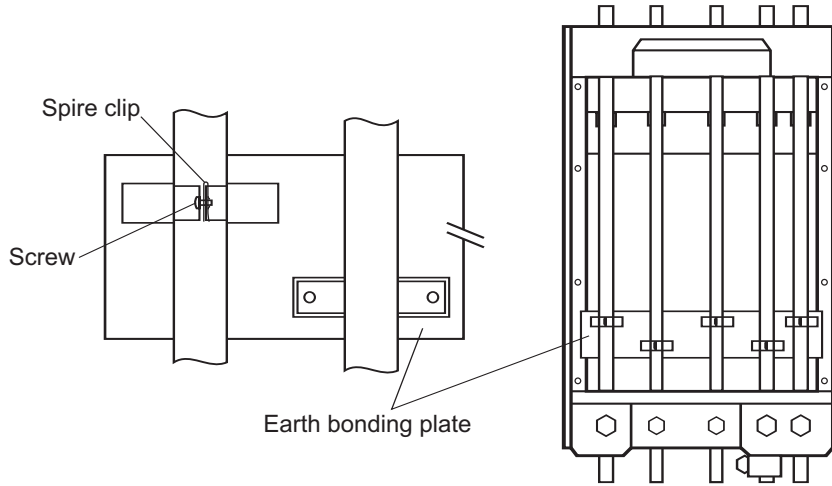

Fig. 4
c. Earth Bonding Plate Installation - See Fig. 4